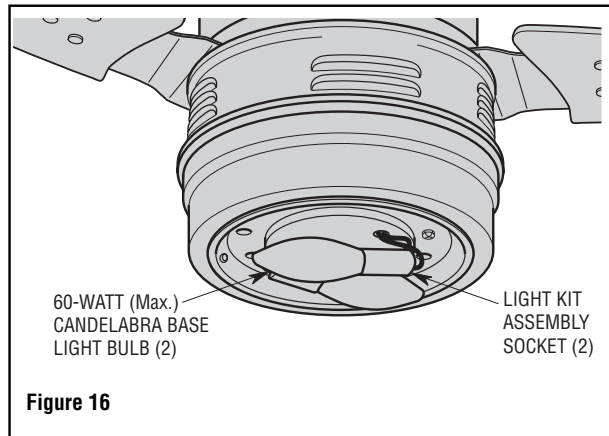

Figure 16
1. Install two 60-watt (maximum) candelabra base light bulbs (included) into the light fitter sockets (Figure 16).